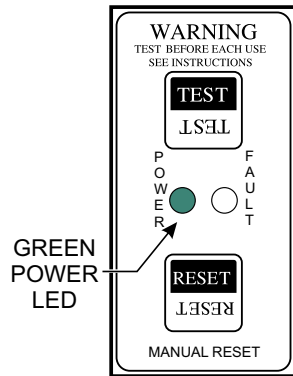

Figure 40. GFCI Module (Green LED ON)
- On the GFCI module (Figure 40), verify that the **green** POWER LED is **ON**.